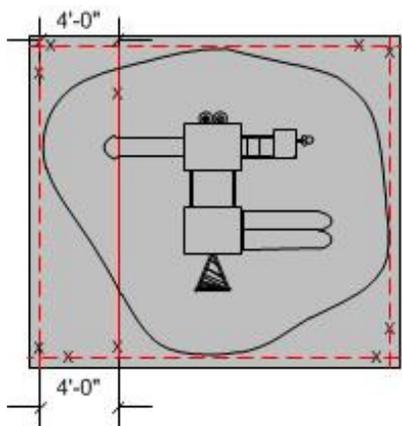

Fig.5
- Snap another red chalk line. This chalk line will be the edge of where you spread your adhesive to (Fig. 5).